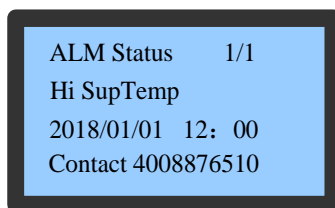

Figure 5-6 Current alarm menu
Alarm status menu is used to monitor the current alarm status of the air conditioner unit. It displays no alarm or specific alarm information. The specific alarm information includes XX/YY, alarm type, and alarm generation time, as shown in **Figure 5-6**. XX indicates the alarm serial number (SN), and YY indicates the total number of reported alarms.